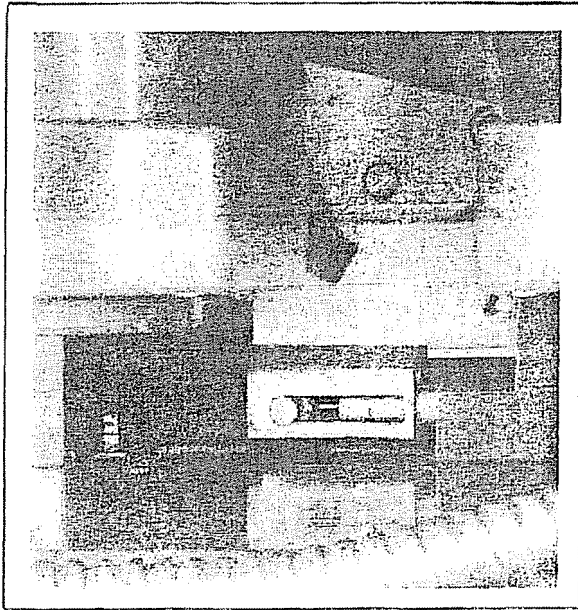

Figure 26
9. Remove the retaining clip which holds the cross link to the pole unit and remove the cross link. See Figure 26.